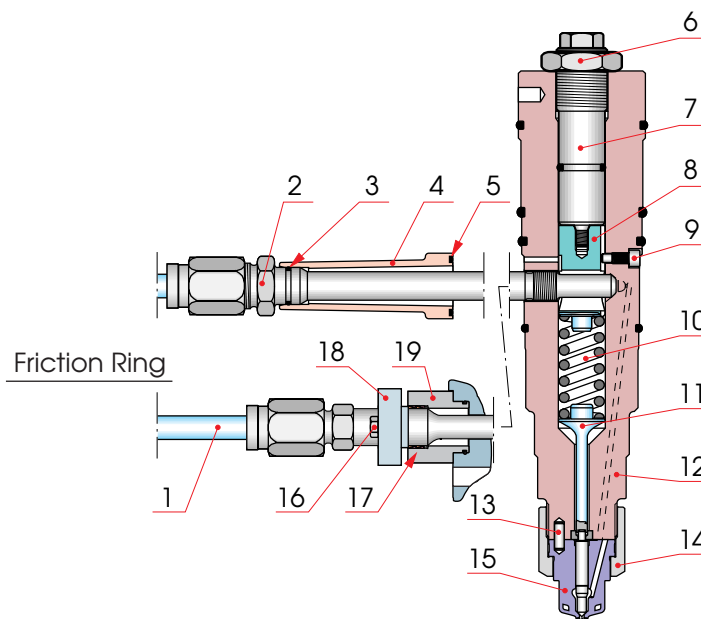

Fig 16-2
The injection valve is centrally located in the cylinder head and includes the nozzle holder and the nozzle (15), see Fig 16-2. The fuel enters the nozzle holder sideways through a connection piece (2) mounted into the nozzle holder.
- 2** Remove the injection pipe (1), see Fig 16-2.
- 3 Unscrew the connection piece (2)** and loosen the protecting sleeve (4) if necessary. Friction ring design, see text below.
- 4 Loosen the screw (16)** and unscrew the connection piece (2). The conical ring elements (17) come loose together with connection piece.
- 6 Mount the connection piece** into the cylinder head. Screw in the connection piece by hand. Tighten to correct torque. (Friction ring design only, see Fig 16-2.)
- 7 Tighten the fastening screws (16)** of the flange (18) to correct torque, see section 07.1. (Friction ring design only.)